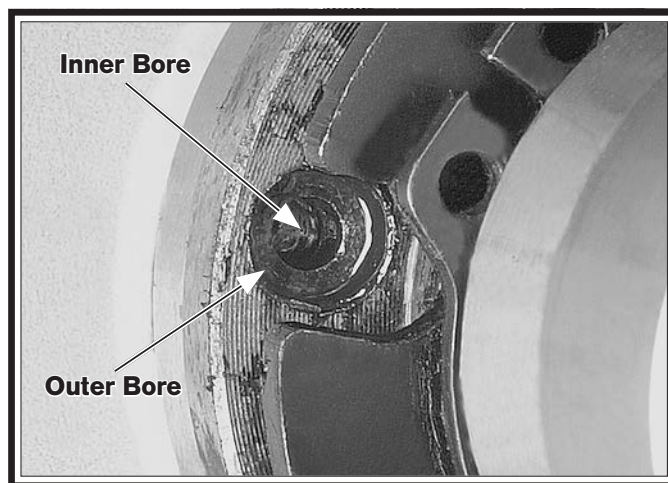

Figure 142. Shear pin bores aligned.
7. Rotate the lathe spindle to line up the inner and outer bores, as shown in **Figure 142**, and use the magnet to remove the other half of the broken shear pin.